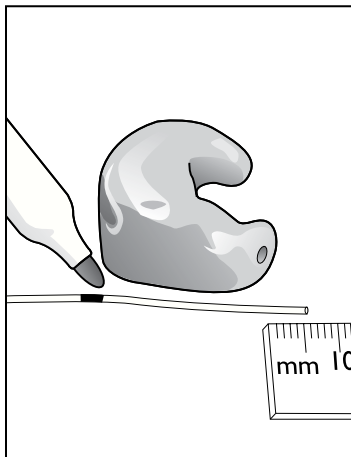

Figure 5.2.4A
1. Place an unattached probe tube on a flat surface along with the client's earmold or shell as shown in Figure 5.2.4A so that the tube rests along the bottom of the canal part of the earmold, with the tube extending at least 5 mm past the canal opening.